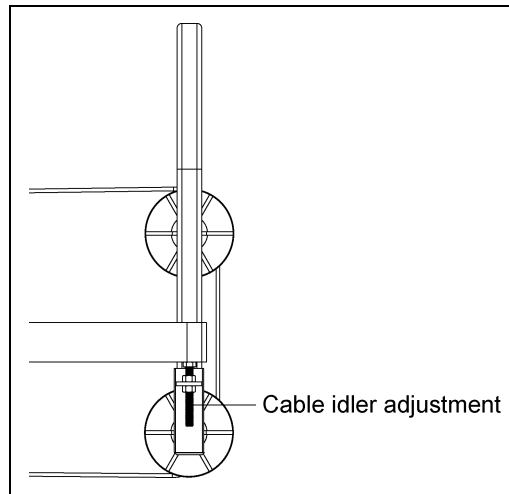

Figure 7A
To adjust the Stir-Ator cable tension, stop the unit so the trolley is not at the bin wall. Use the two (2) 3/8" nuts to adjust the cable idler in or out to increase or decrease the tension on the cable. (See Figures 7A, 7B and 7C.)